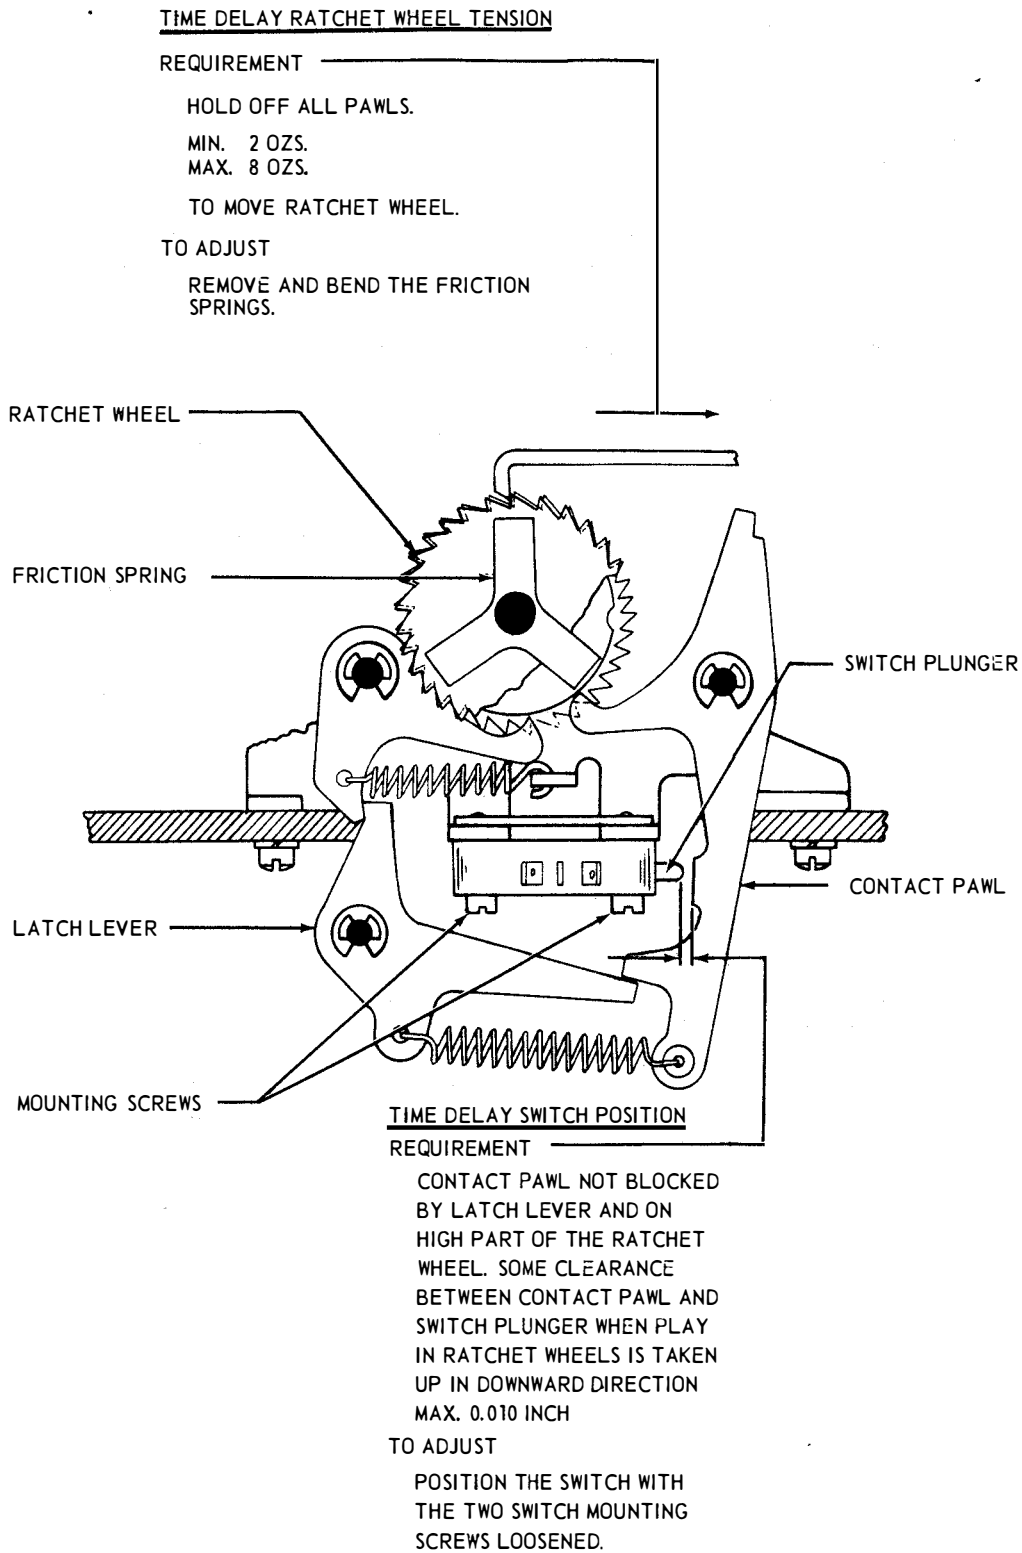

Figure 7-22. Keyboard or Base, Time Delay Mechanism
- (e) Time Delay Switch Position, figure 7-22.
(2) SPRING TENSIONS.
- (f) Time Delay Ratchet Wheel, figure 7-22.